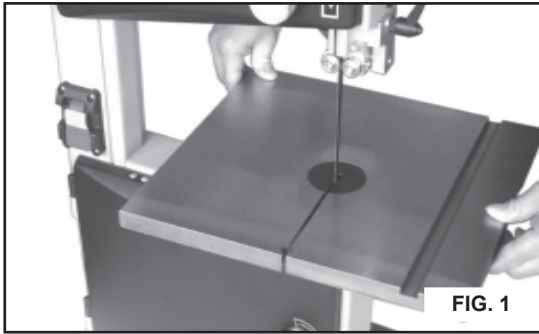

FIG. 1
a. Assemble the upper table trunnion to the lower table trunnion with Carriage Bolt, Glide Piece, Washer and Wing Nut. Place the table on to the upper table trunnion, taking care when passing the saw blade through the slot of the table (See Fig. 1). Locate four hex bolts and four lock washers from the bag of loose parts. Mount the table to the upper table trunnion and install a bolt with washer in each hole, then tighten with adjustable wrench.